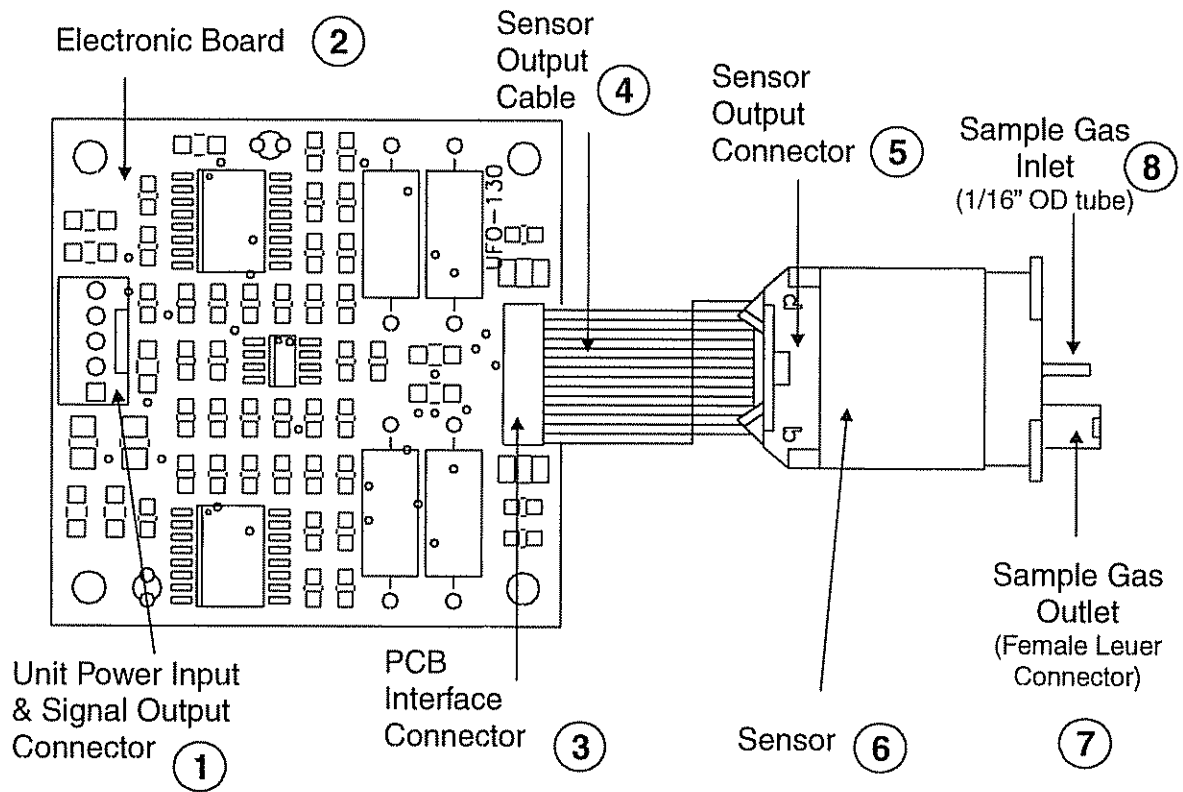

Fig. 1 Sensor - PCB Assembly Top View
- Attach the sensor output connector (5) of the cable (4) to sensor output header.
- Attach the instrument power/signal cable to the connector (1). Refer to Fig. 1, and section 5.1.
(Refer to Fig. 1 and section 4).